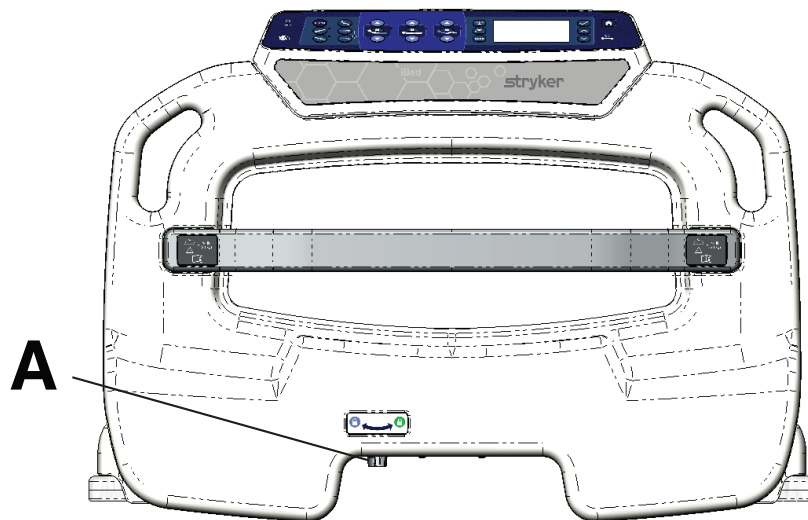

Figure 14 – Footboard lock
1. Locate the lock switch (A) at the bottom of the footboard and turn the switch toward the blue symbol to unlock (Figure 14).
3. Turn the lock switch (A) toward the green symbol to lock the footboard (Figure 14).